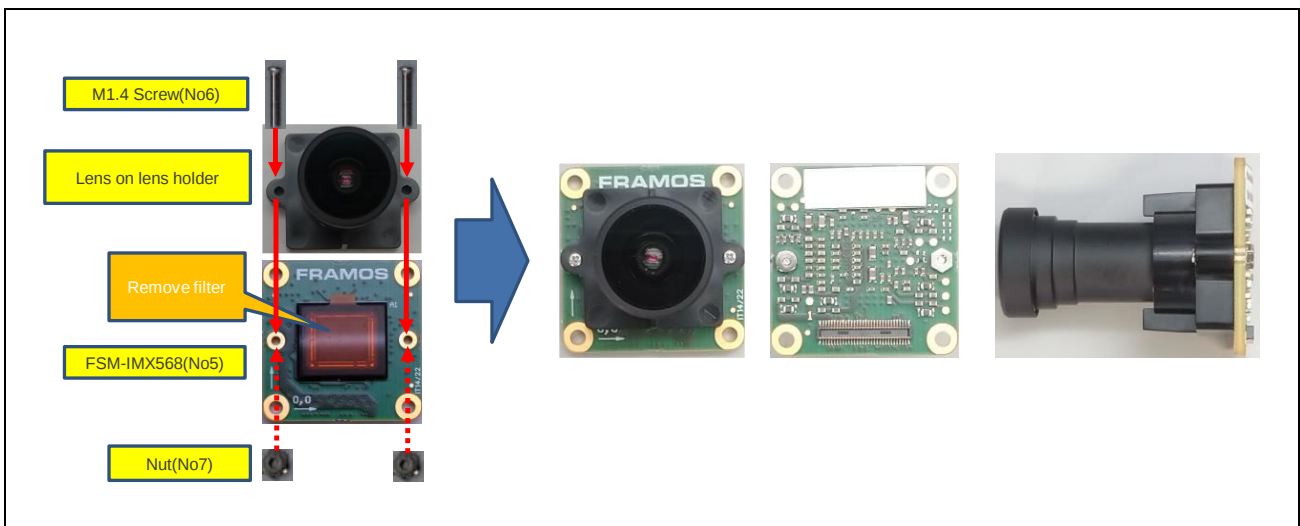

Figure 3.1-4 Assemble lens holder to FSM-IMX568
2. Assemble lens holder to FSM-IMX568 (See **Figure 3.1-4**)